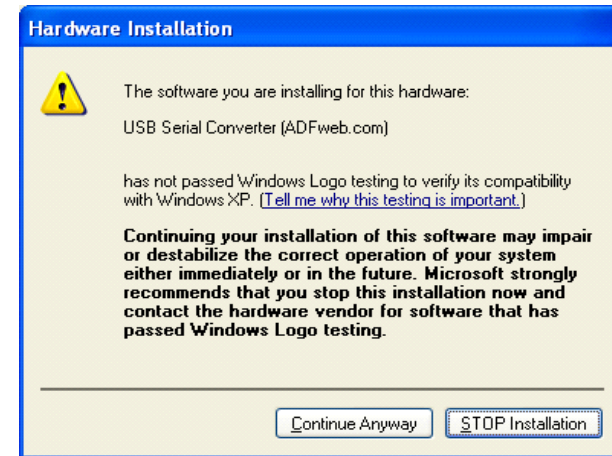

Figure 6: "Hardware Installation" window
- At this point of the installation the window "Hardware Installation" appears. Press the "Continue Anyway" button to continue (Fig. 6);